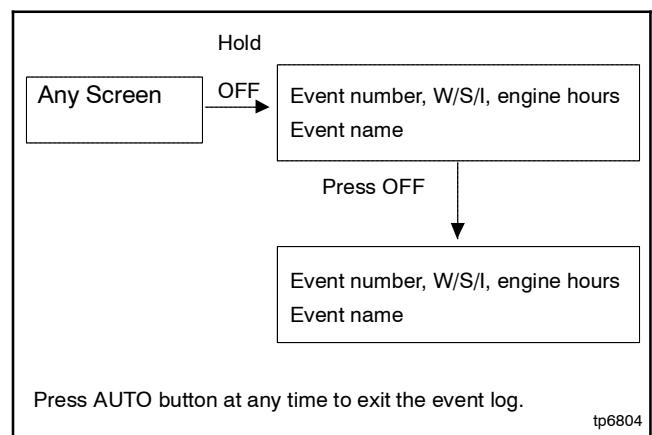

Figure 4-7 Event Log
The event log displays up to 10 controller faults and notices, starting with the most recent event. Events are numbered 1-10, with 1 being the most recent. Each event is displayed with the date and time of the event, the number of the event, a letter to indicate whether the event was a warning (W), shutdown (S), or informational notice (I), the engine hours at the time of the event, and the event description. See Figure 4-7.